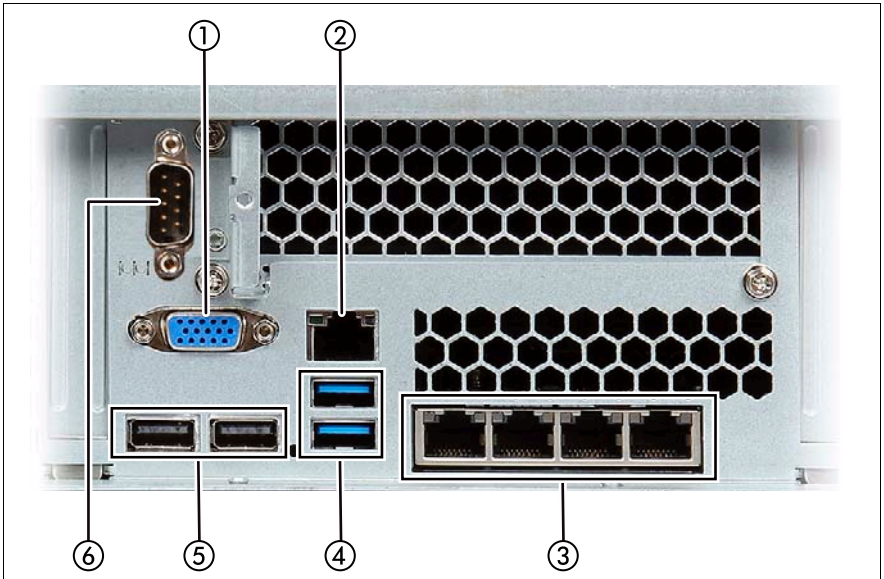

Figure 2: Connection panel on the rear
- ▶ Connect the monitor, keyboard and mouse to the standard connectors of the server (see table and figure 2 on page 51).